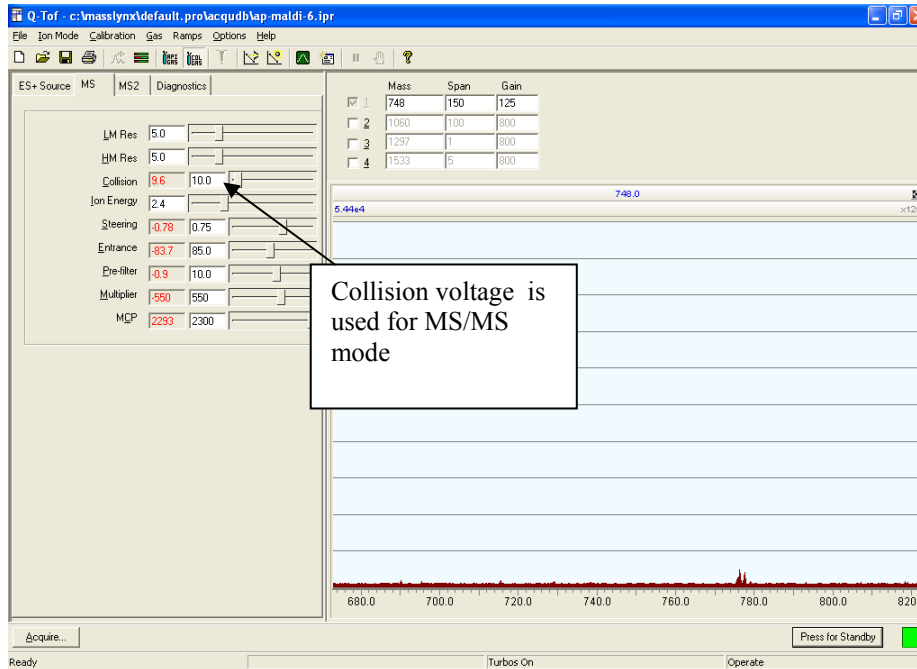

Fig. 41. MS Tune page in MassLynx with MS tab showing
- The Collision voltage in FIG. 41 is used in tandem MS/MS. Voltages higher than that typically used in ESI are required to break down the singly-charged MALDI ions. The Entrance voltage in FIG. 41 is set to 85V (higher Entrance voltage is beneficial for AP/MALDI over ESI).